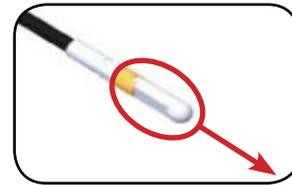

Figure 1
Step 1: Remove the white protective dust cap from the unassembled connector (**Figure 1**).